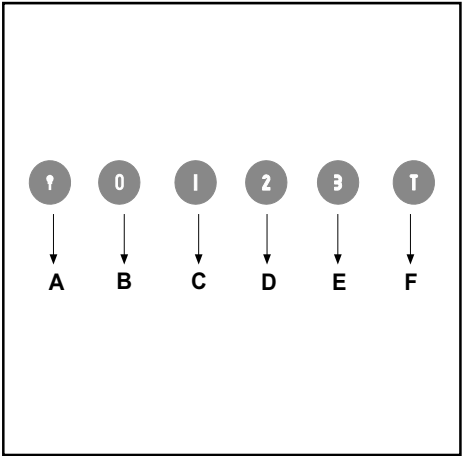

Fig.5
• **COMMANDS:** (Fig.5) LUMINOUS the key symbols are explained below: